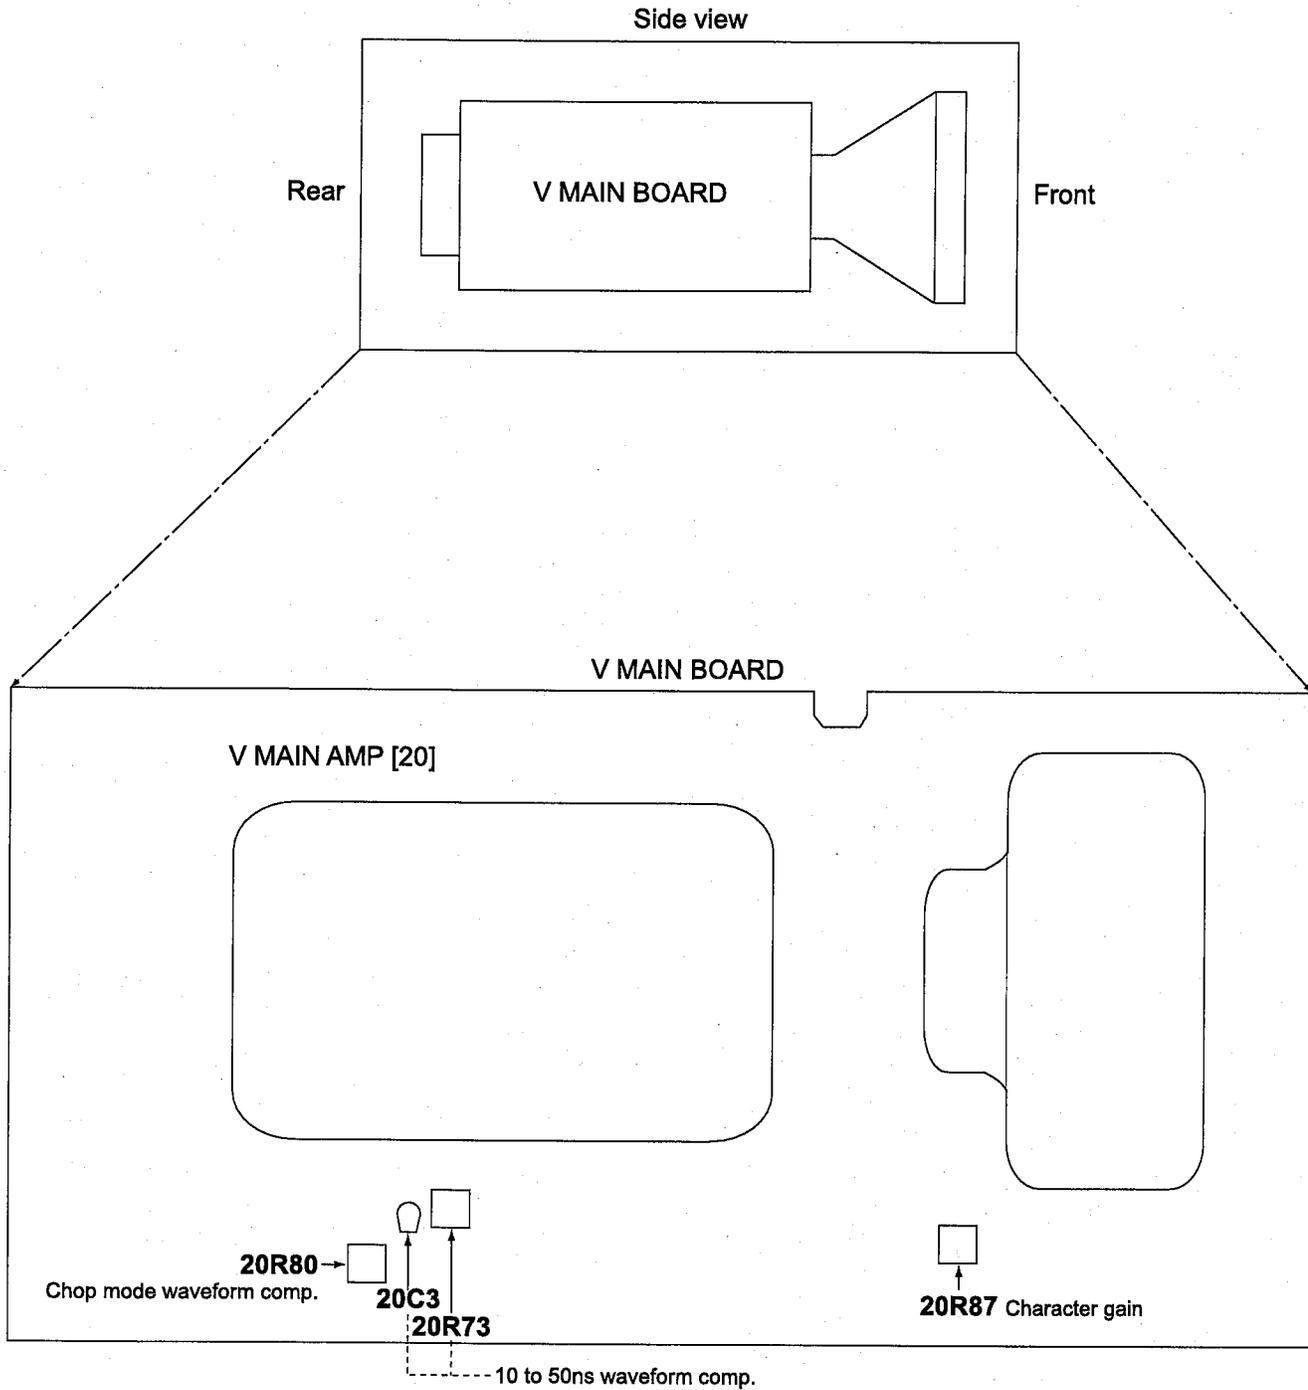

Figure 2.10 V MAIN BOARD
- Figure 2.10 V MAIN BOARD : See page 2-24